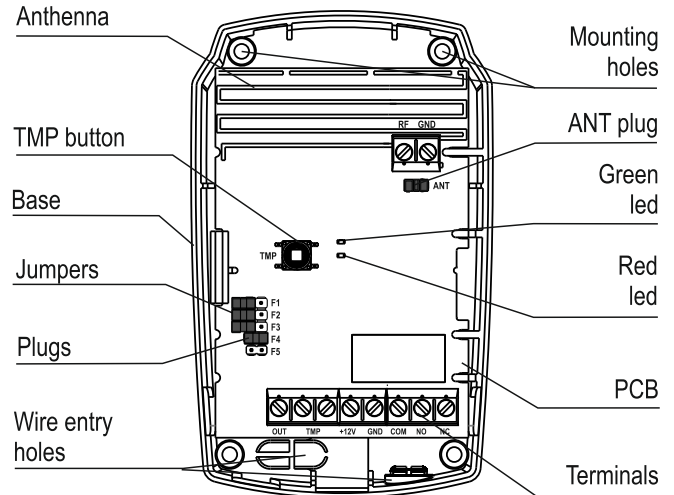

Figure 2
4.1 RVC is designed as a unit consisting of a base, a removable cover and an antenna. There is a printed circuit board with radio elements inside the unit (Figure 2).